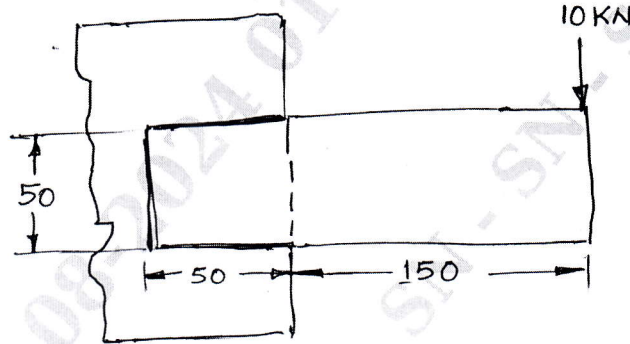

Fig.Q8(b)
b. A welded connection of steel plates as shown in Fig.Q8(b) is subjected to an eccentric load of 10 kN. Determine the throat dimension of weld, if the permissible stress is limited to 95 N/mm^2 . Assume static conditions.